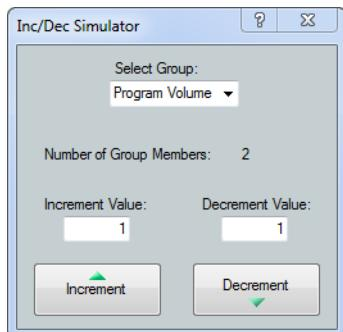

Figure 55. Increment/Decrement Simulator Dialog Box
- Click **Tools > Increment/Decrement Simulator** in the Group Controls dialog box to open a dialog box (see figure 55) that lets you easily experiment with fine adjustments.